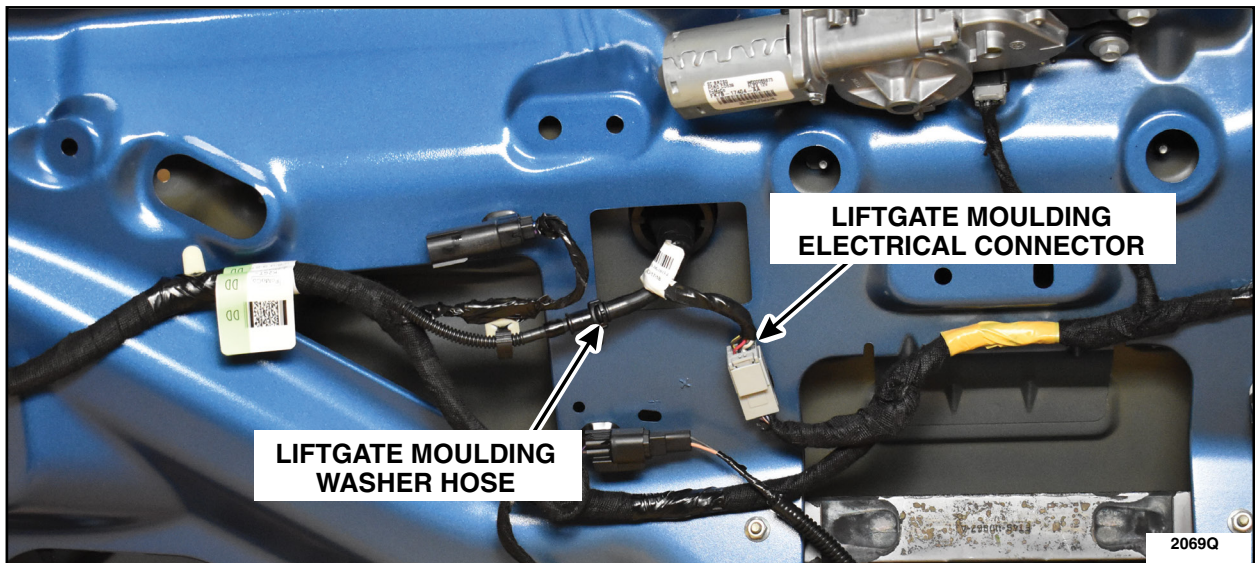

FIGURE 3
3. Disconnect the liftgate moulding washer hose and the electrical connector. See Figure 3.